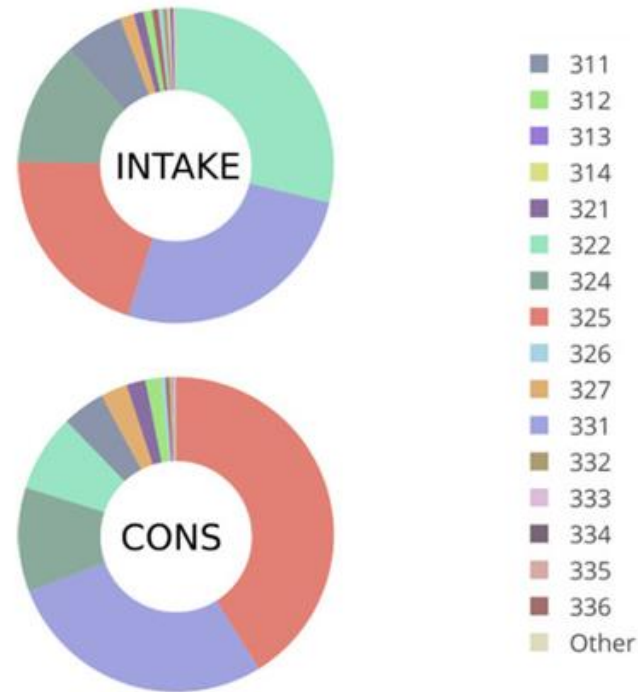

Figure 4: U.S. manufacturing total water intake (top) and consumption (bottom) by subsector using USGS and Canadian data
Figure 4 provides a breakdown of U.S. manufacturing total water withdrawals and consumption by subsector. In order, the pulp and paper (322), primary metals (331), chemicals (325), petroleum refining (324), and food (311) sectors have the greatest water withdrawals of any manufacturing subsector. See Appendix B for a listing of 3 digit NAICS code for reference.